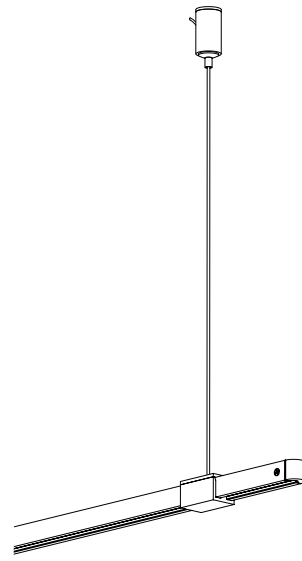

Fig. 7
3. Insert the cable into the post and adjust to the desired length: to shorten, push the cable up; to lengthen, push in the plunger while pulling down on the cable, release the plunger to lock. Cut off the excess cable where it exits the post. (Fig.7)